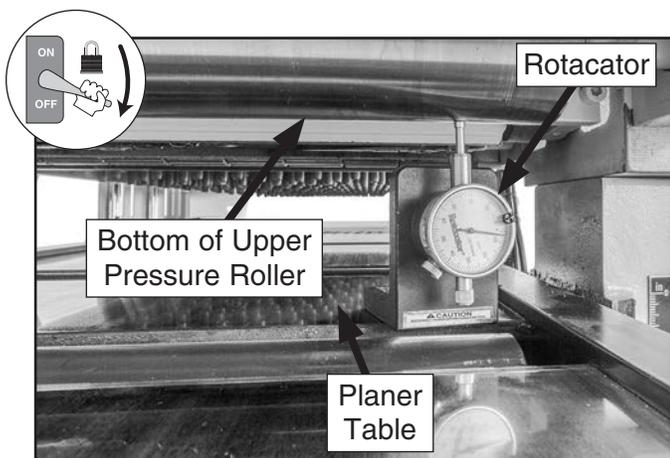

Figure 123. Rotacator placed underneath leftside of upper pressure roller.
3. Place Rotacator or dial indicator on planer table underneath leftside of upper pressure roller (see **Figure 123**).